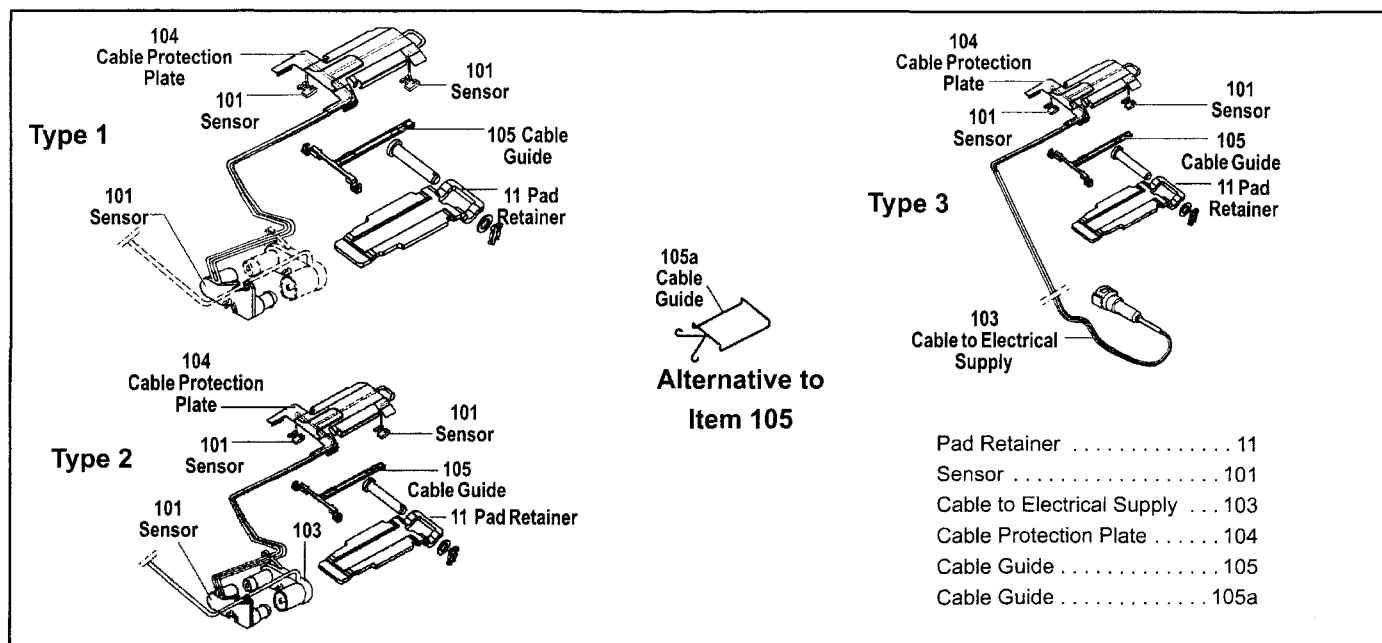

FIGURE 9 - ELECTRONIC WEAR INDICATOR COMPONENTS
**See Figure 9, on Page 6 for exploded